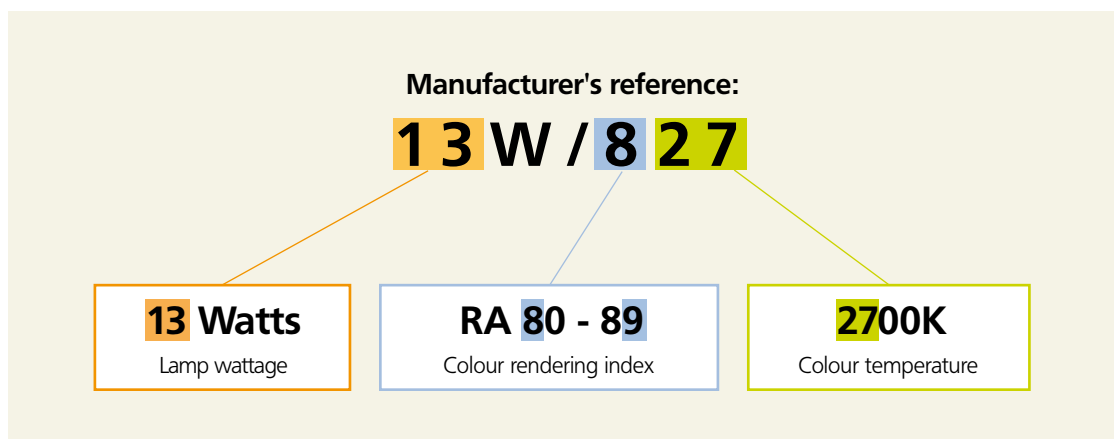

Figure 4 Derivation of manufacturer reference code
Manufacturers generally state the colour rendering and temperature of a lamp using a three-digit colour reference number, e.g. 827. The first digit (8) indicates the initial number of the colour rendering index and the second and third (27) indicate the initial numbers of the colour temperature (see Figure 4). The colour reference number is often preceded by the lamp wattage given in manufacturers' literature.